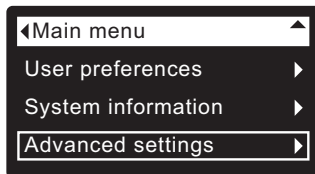

FIG. 88
1. From any of the rolling status screens, press the SELECT (O) button to display the **Main menu**.
2. Press the DOWN (▼) button to scroll through the menu options until **Advanced settings** is highlighted (See Figure 88).